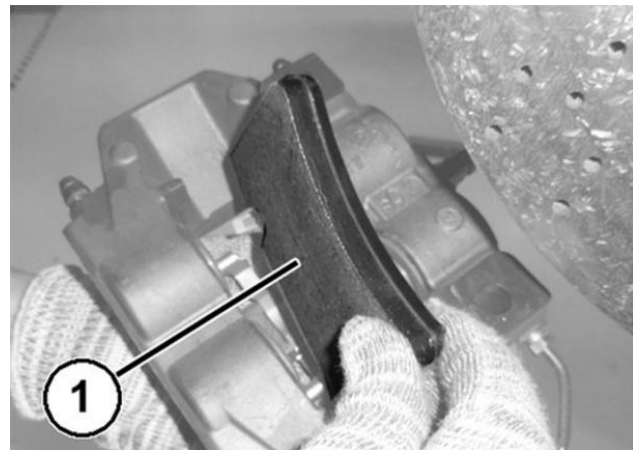

Figure 9 – Inner Brake Pad
30. Remove the inner brake pad (1) (Figure 9).